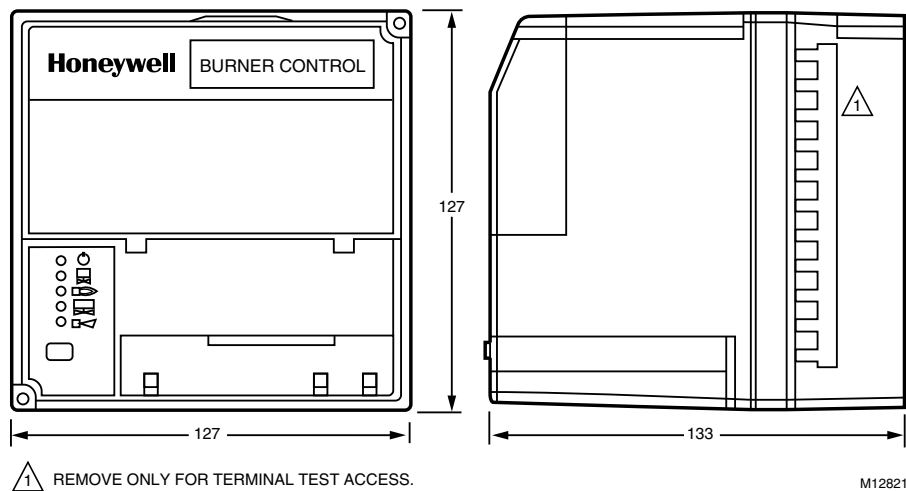

Fig. 1. Mounting dimensions of relay module and wiring subbase in millimeters only.
- **Five sequence information light emitting diodes (LED)—with symbols for Power, Pilot, Flame, Main and Alarm (see Fig. 1).**
Dimensions: See Fig. 1.**Weight:**